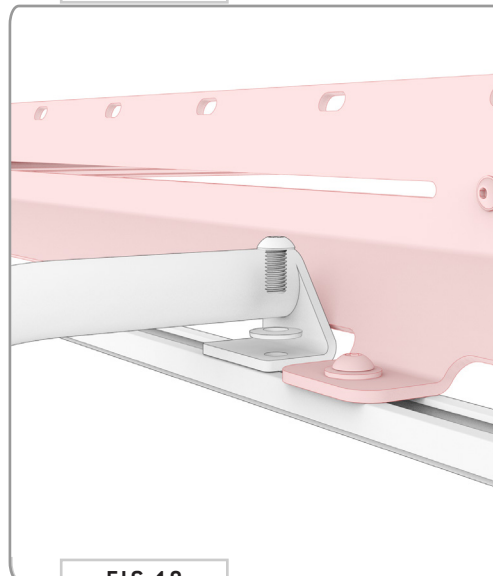

FIG 10
3.2 Attach Side Ladder: Loosely secure **Side Ladder** to **Rail Nuts** using (2) 3/8-16 x 0.5" **Button Head Hex Screws** and **Lock Washers** (**FIG 10+11**).